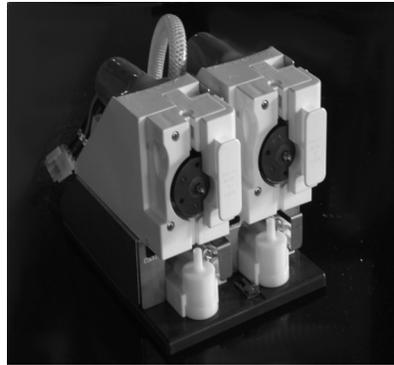

Figure 7. Platform Assembly
1. Move all of the Dispense/Flush Switch (located on the platform assembly in the refrigerated cabinet) to the **ON** position. Place an empty cup on the drip tray below each dispense nozzle (Figure 7).